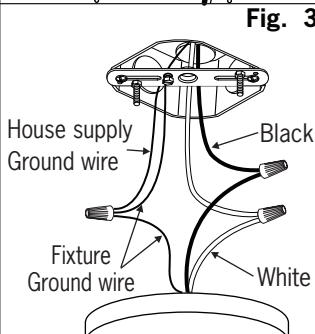

Fig. 3
3. Connect the ground wires (bare copper or green) from your fixture to the ground wire (bare copper or green) or ground screw in the electrical outlet box. Connect the black wire (or wire marked "SPT-1") from the fixture to the black wire in the electrical box and connect the white wire from the fixture to the white wire in the electrical box. (See Fig.3)